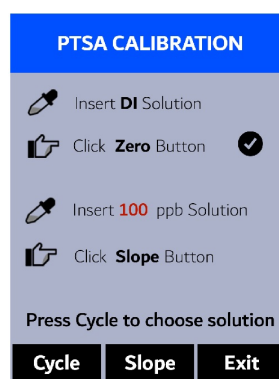

Figure 14.
7. If the calibration succeeds, a checkmark ( **✓** ) and instructions for the slope calibration will appear (Figure 14).